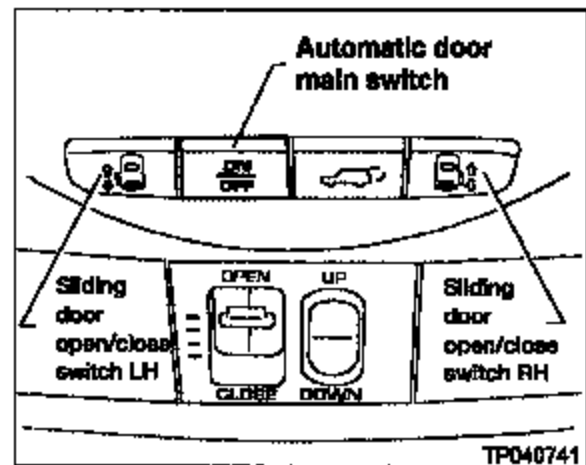

Figure J36
51. Turn the Automatic Door Main Switch OFF (see Figure J36).